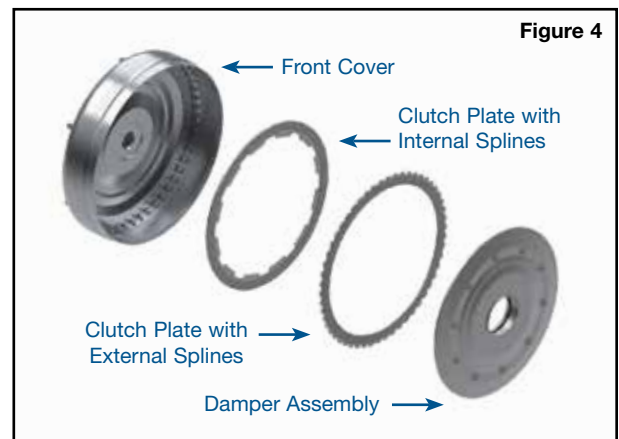

Figure 4
- Install Sonnax internally-splined (dual friction) clutch plate into front cover (**Figure 4**).
- Install Sonnax externally-splined (single friction) clutch plate into front cover, friction side facing out, steel side toward cover (**Figure 4**).